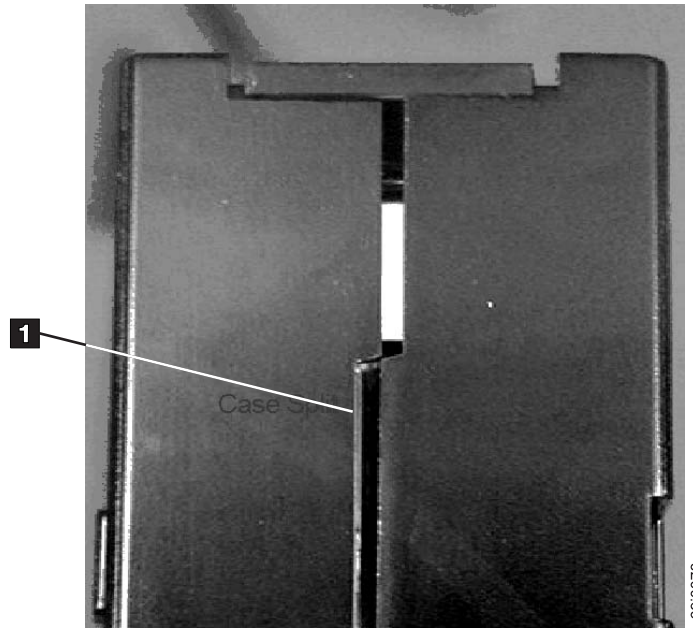
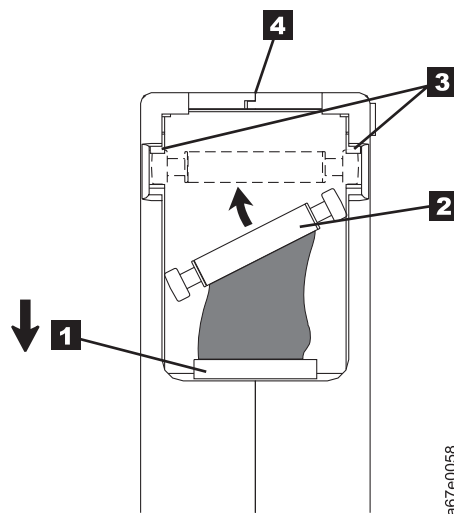

Figure 4-7. Checking for gaps in the seams of a cartridge
Figure 4-9. Placing the dislodged leader pin into the correct position. The cartridge door is open to show the leader pin.
- Inspect the rear of the cartridge (the part that loads first into the tape load compartment) and ensure that there are no gaps in the seam of the cartridge case (see **1** in Figure 4-7 on page 4-11 and **4** in Figure 4-9 on page 4-13). If there are gaps in the seam (see Figure 4-7 on page 4-11), the leader pin might be dislodged. Go to “Repositioning or reattaching a leader pin” on page 4-12.
Split cartridge case. See Figure 4-7.
1. Slide open the cartridge door ( **1** in Figure 4-9) and locate the leader pin **2** (you might need to shake the cartridge gently to roll the pin toward the door).